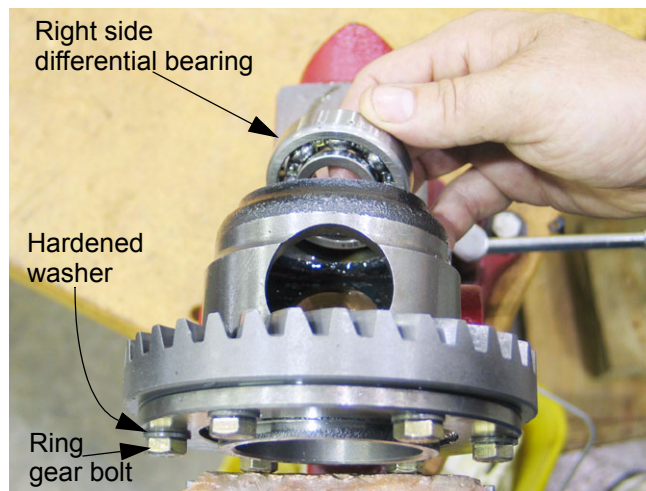

Figure 9.28
- 9.28. The second 16 tooth miter gear can be removed, along with the second differential bearing (right side), after the 10 tooth miter gears are out. See Figure 9.28.